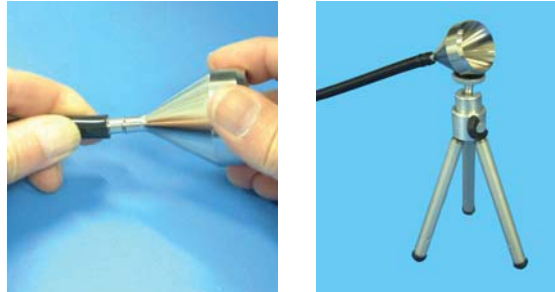

Figure 3-10 Tubing, isokinetic probe and tripod
1. Insert the isokinetic probe's barb connector into one end of the tubing. If the tripod will be used, screw the probe onto the tripod's head and use the lock wheel to lock the probe in position. The head of the tripod swivels and can be locked in any position. See Figure 3-10.